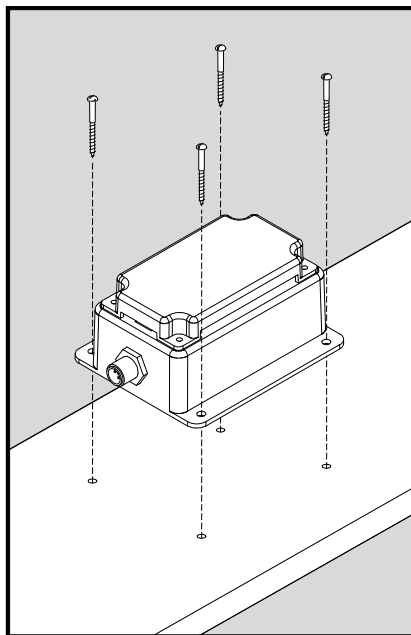

Figure 1 – Mounting the RIM100
| Figure 1 | – Mounting the RIM100 | 3 |
Attach the RIM100 securely to the vessel using the included stainless steel mounting screws or other fasteners as shown in Figure 1 below. Do not use threadlocking compounds containing methacrylate ester, such as Loctite Red (271), as they will cause stress cracking of the plastic enclosure.